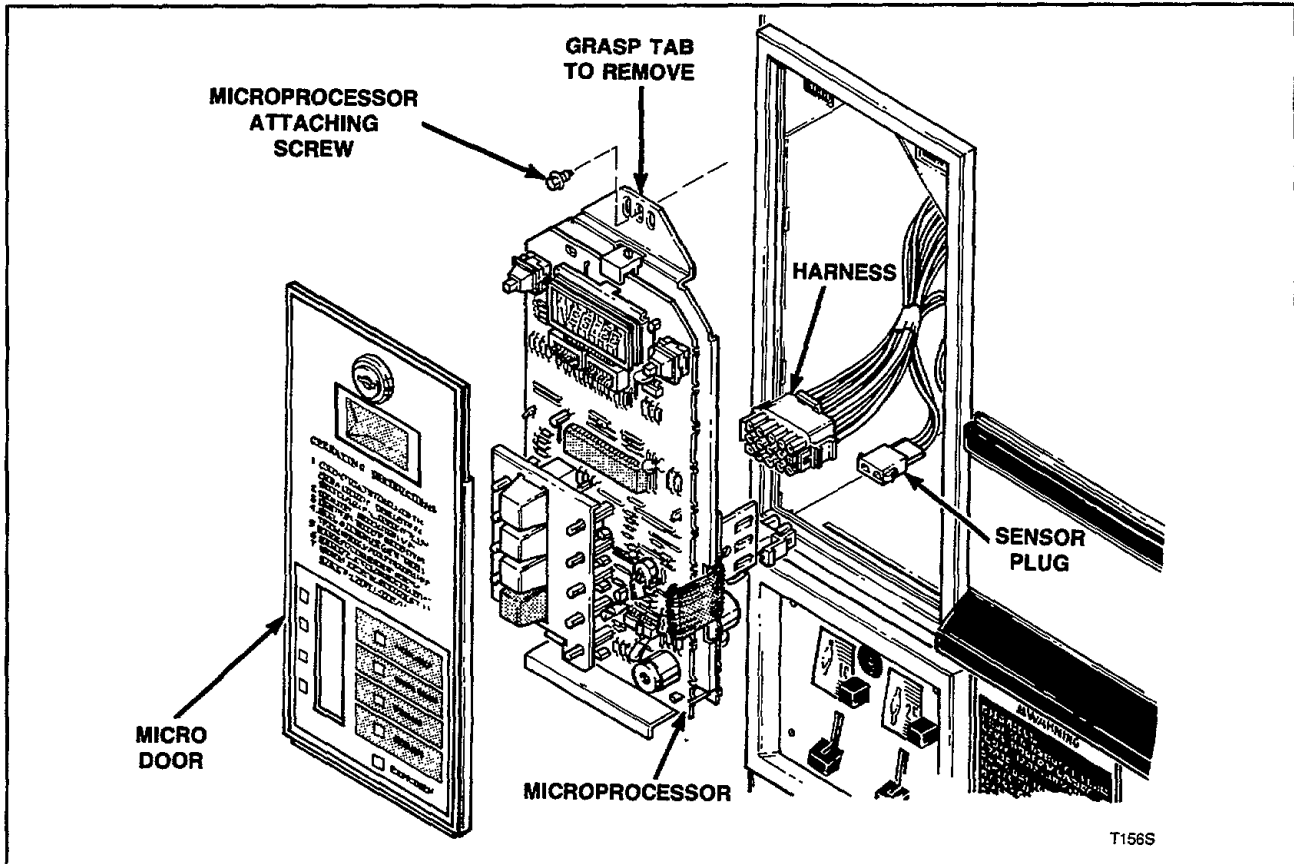

Figure 9
- Unlock and remove microprocessor door, *Figure 9*.
- Pull microprocessor out of housing and disconnect microprocessor quick disconnect blocks, *Figure 9*.